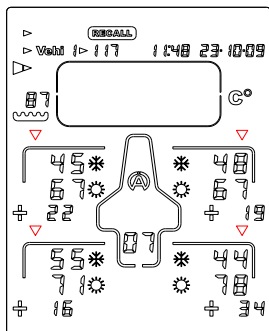

Figure 11
5) Press the button  or  : the Tyrecontrol displays the second phase of data, that is to say the outside temperatures of the tires, before  and after  race + the gaps (figure 11).